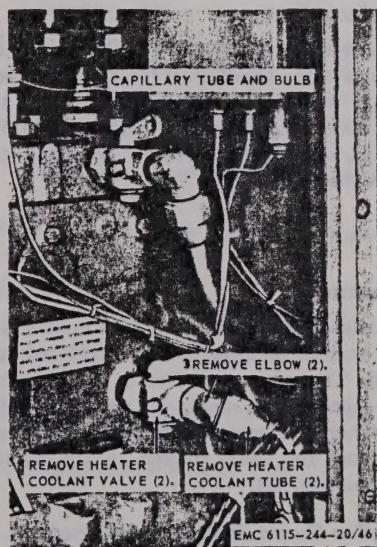

Figure 46. Heater coolant valves, heater coolant tubes, and water temperature gage capillary tube and thermometer, removal and installation.
- (1) Remove the thermostatic switch (par. 161).
- (2) Refer to figure 46 and remove the heater coolant valves and tubes from the engine block and heater.
- (1) Refer to figure 46 and install the heater coolant valves and lines on the engine block and heater.
- (2) Install the thermostatic switch (par. 161).